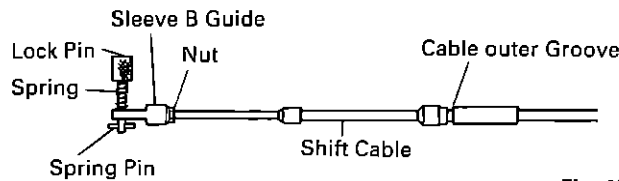

Fig. 12
- Shift side Insert the Lock pin with the Spring in the Sleeve B guide and press the spring pin into the Lock pin. Screw the sleeve B guide into the end of the Cable. Secure it with the Nut. (Fig. 12)
- ② Connecting the Remote control cable (engine side)